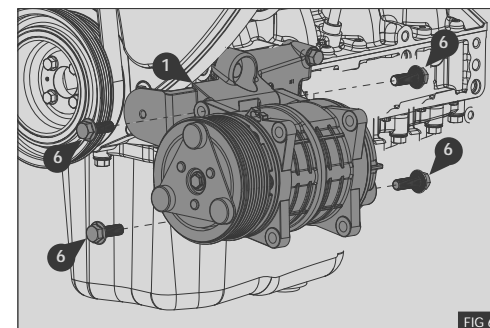

FIG 6
3. Fit the Compressor to Mount Bracket ① using the four bolts ⑥ M10 x 30 - Fig 6
4. Torque bolts ⑥ to 50Nm / 37lb.ft.